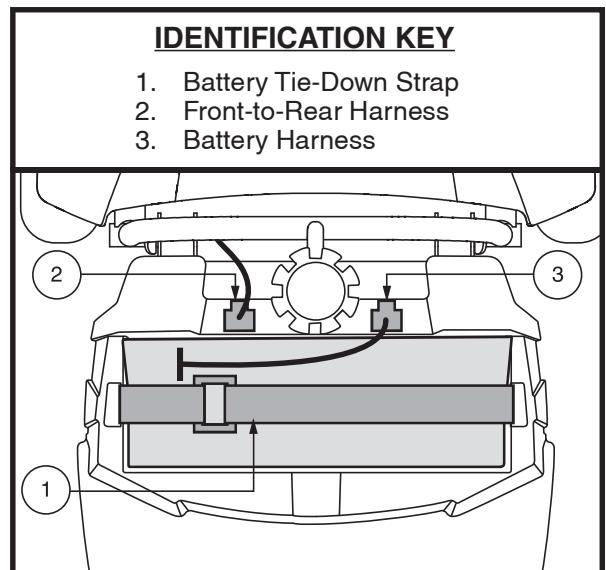

Figure 22. Battery Tie-down Strap
1. Disconnect the battery harness and remove the battery pack from the Travel Scooter. See figure 22.
2. Disconnect the battery harnesses and tie-down strap then remove the battery pack from the Travel Scooter. **See figure 22.**